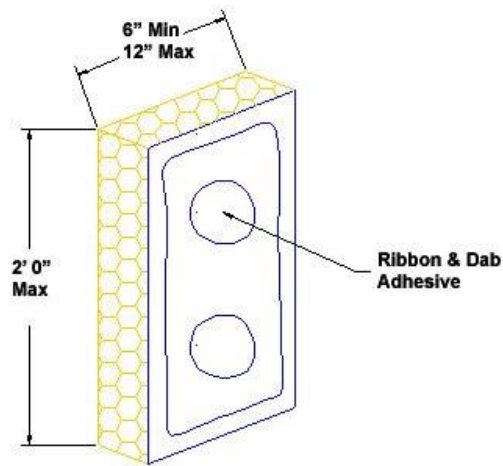

Fig. 22
3. Apply the adhesive mixture to the back side of the Closure Blocks using a ribbon and dab pattern as shown in Figure 22 and position on the wall.
6. Apply the adhesive mixture to the back side of the Closure Blocks/Starter Strips using a ribbon and dab pattern as shown in Figure 22 and position on the wall.